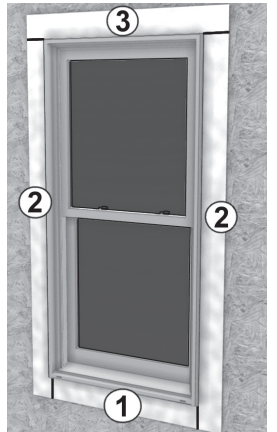

Figure 4
- (Recommended)** Following the flashing manufacturers' recommendations, apply flashing to the nail fins and surrounding wall surface starting with the bottom, then the sides, and finally the top, creating a shingle effect (reference **Figure 4**). **! NOTE:** Where pan flashing is present, do not use flashing that will impede proper drainage of the pan on the bottom.